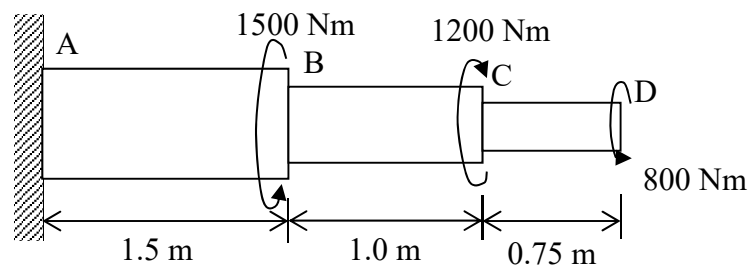

Figure 4/Rajah 4
3. [a] A stepped shaft *ABCD* consisting of solid circular segments is subjected to three torques as shown in **Figure 4**. The torques have magnitudes of 1500 Nm, 1200 Nm and 800 Nm. End A is fixed. Sketch the vector for torques applied at the stepped shaft using Right-Hand Rule and calculate the internal torques at each segment.